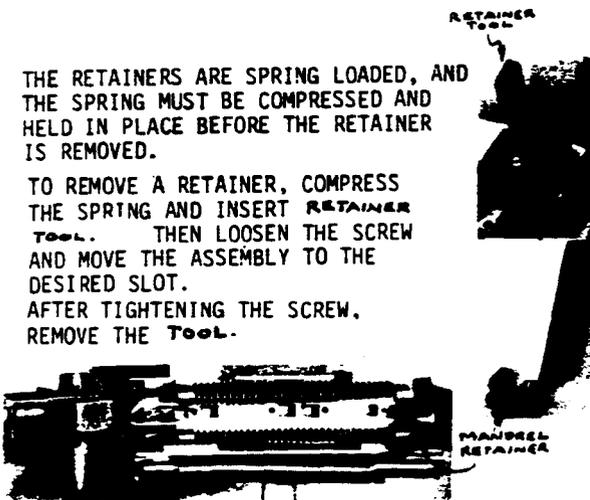

FIG. 11 MANDREL RETAINER ADJUSTMENT
3.247 The R4861 tool can be adjusted to accept the 25, or 32 wire mandrel. Use the retainer removal tool (842689655) to remove and adjust the mandrel retainers in the slots provided. Use care not to loose retainer springs. See Fig. 11.